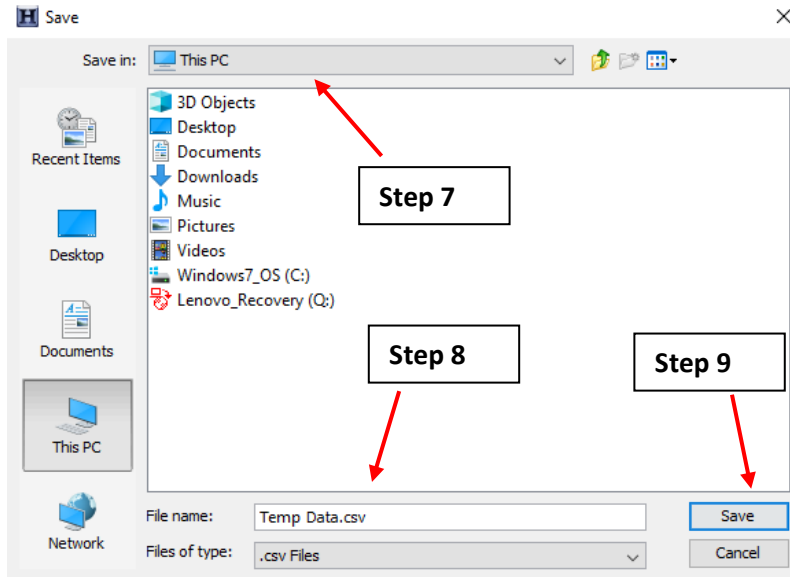

Figure A.8.18: “Save” pop-up window.
9. Click “Save” to complete the .csv exporting process (Figure A.8.18).